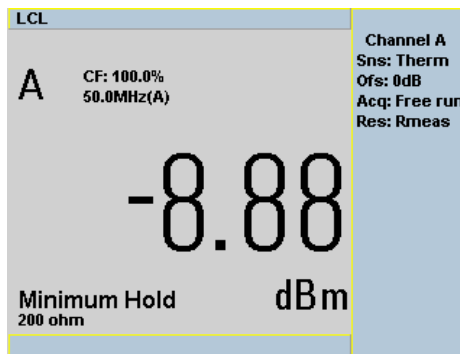

Figure 2-29 Min Hold indicated in full in the expanded window
- 6 Press  to display the measurement window in the full screen mode. The max hold/min hold is indicated in full in the expanded window as shown in Figure 2-29.